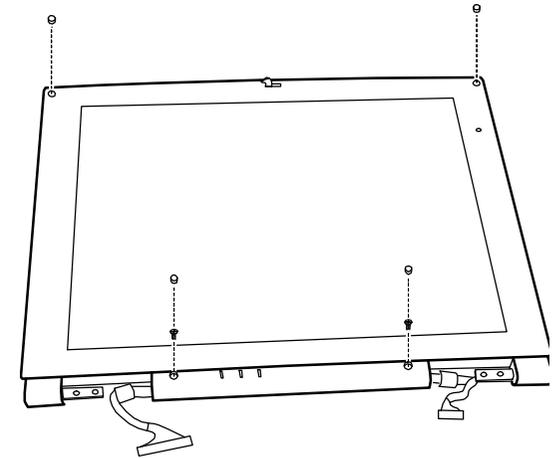

Figure 5-26. Removing the 13.3 inch LCD frame.
2. Remove the four rubber pads and two screws on the bottom side. Then slightly lift up the bottom part of the frame and gently separate the LCD frame from the housing. (Refer to Figure 5-26)